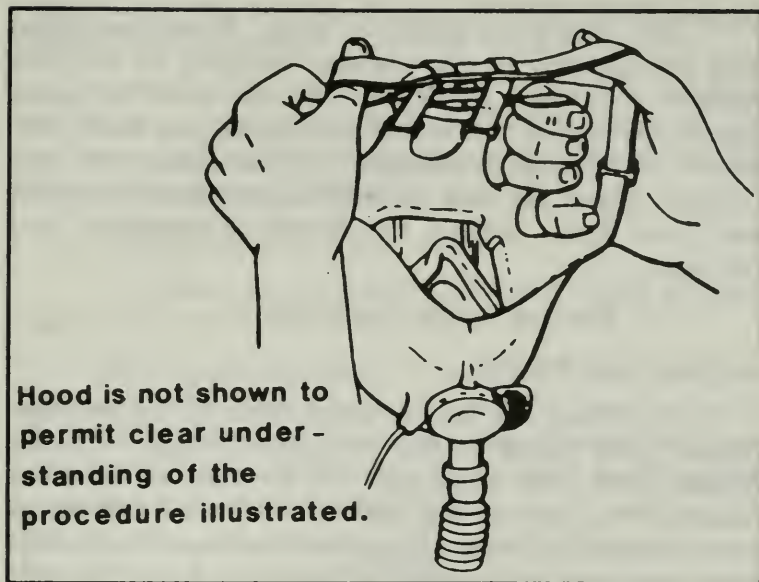

Figure 258. Open facepiece.
(5) Place your thumbs under the cheek straps and the temple straps with your little fingers around the cheek strap and the index fingers over the temple straps. Spread your hands to open facepiece (Figure 258).